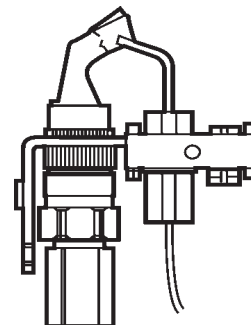
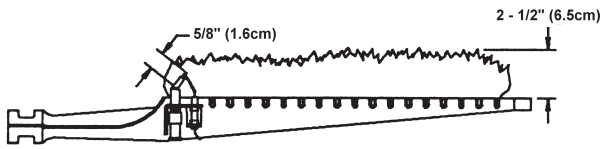

FIGURE 15
FIGURE 16
At least once a year, check the pilot burner, fig. 15, and the main burner, fig. 16, for proper operation. Refer to the following pilot and main burner sections.
- The pilot flame should envelop sensing device with 5/8" (1.6cm) flame, fig. 16. Remove pilot adjustment cover screw, fig. 15. Turn inner adjustment screw clockwise to decrease, or counterclockwise to increase pilot flame. Be sure to replace cover screw on gas valve after adjustment to prevent possible gas leakage.
The main burner, fig. 16, should display the following characteristics: